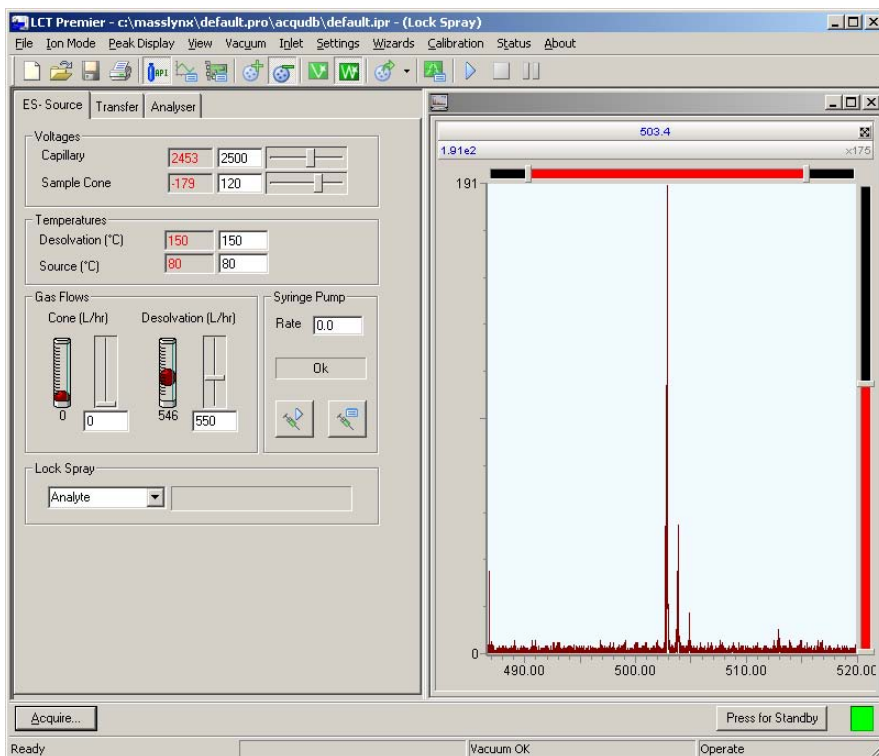

Figure 2-2 LCT Premier Tune Window
1. If MassLynx is not already open click the MassLynx icon, , on the desktop (Figure 2-2).